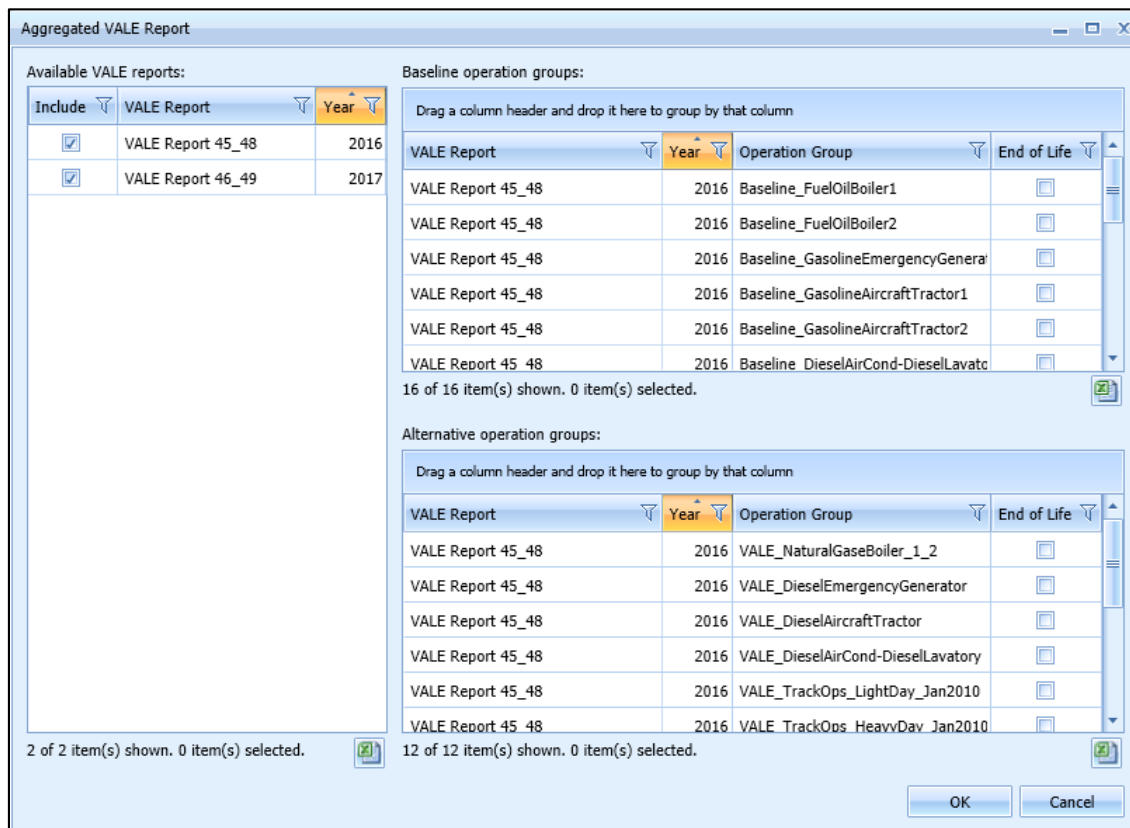

Figure 5-54 Sample Aggregated VALE Report Dialog
2. From the *View Reports* ribbon group, click *Aggregated VALE Report* to open the *Aggregated VALE Report* dialog will (Figure 5-54).